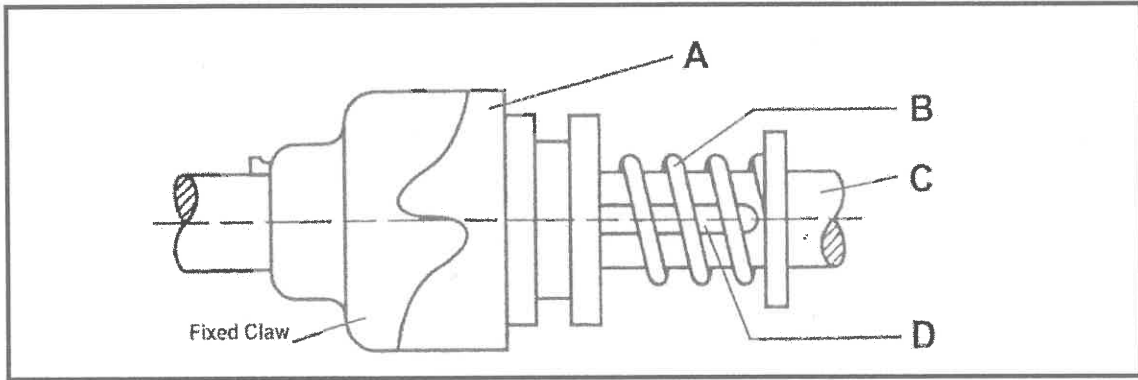

FIGURE 2
3.1 FIGURE 2 shows a diagram of a clutch.
3.1.2 Name the components indicated in FIGURE 2 by writing only the answer next to the letter (A–D) in the ANSWER BOOK. (4)